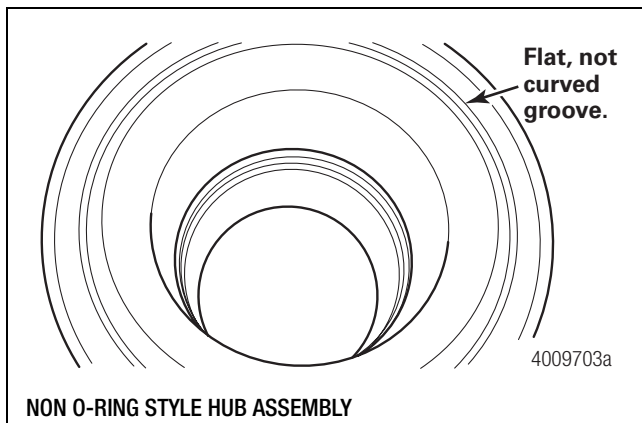

Figure 4.38
- If the bearing does not have a machined groove as shown in Figure 4.38: It is a non O-ring style hub. No O-ring is required.